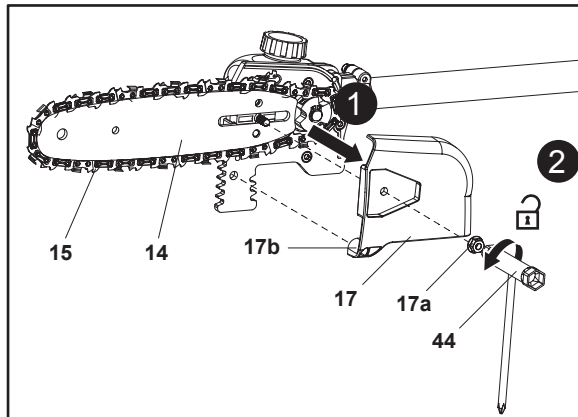

Fig. 8
1. Place the product on a suitable flat surface with the pruner cover (17) facing forwards.
2. Unscrew the locking nut (17a) anticlockwise and then remove it together with the pruner cove (17), the guide bar (14) and the saw chain (15) (Fig. 8).
3. Use the new guide bar (14) and saw chain (15) with same types described in the “technical specification”.